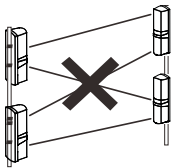

Fig 6
- (4) Do not let infrared beams from other devices reach the RX, as shown in Figure 6;
- (5) Install the device to a sufficient height, which can effectively reduce the reflection of infrared beams.